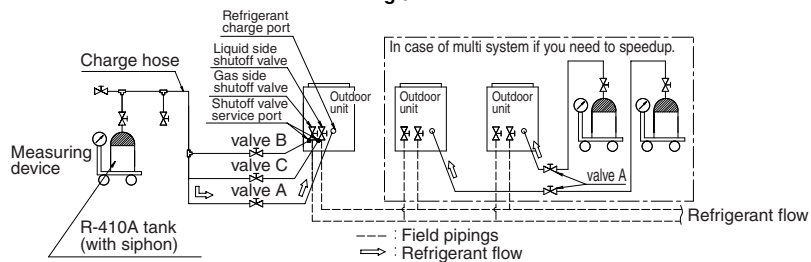

fig 34
- The refrigerant will be charged about 22kg in one hour at outdoor temp. 30°C DB (about 6kg at outdoor temp. 0°C DB). If you need to speed-up in case of multi system, connect the refrigerant tanks to each outdoor unit as shown in the figure 34.